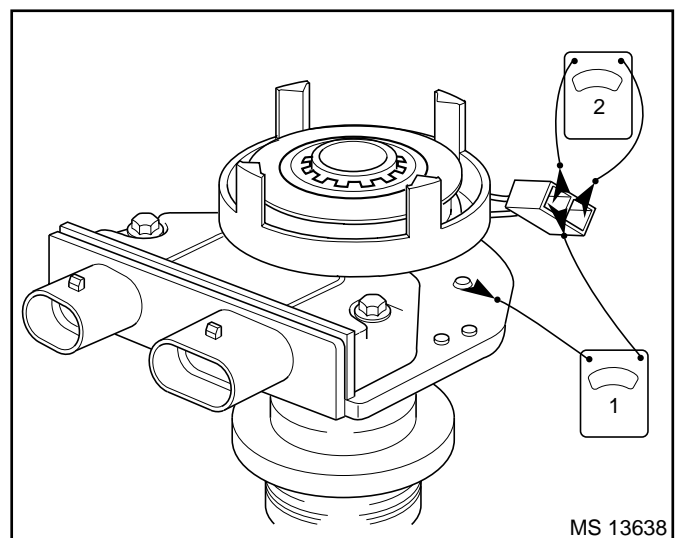

Figure 4-9 - Testing the Pick-up Coil
- ñ Connect an ohmmeter to either pick-up coil lead and the housing as shown in Figure 4-9, Test 1. The reading should be infinite. If not, replace the pick-up coil.
- ñ Connect an ohmmeter to both pick-up coil leads as shown in Figure 4-9, Test 2. Flex the leads by hand at the coil and the connector to locate any intermittent opens. The ohmmeter should read a constant unchanging value in the 500 to 1500 ohm range. If not, replace the pick-up coil.